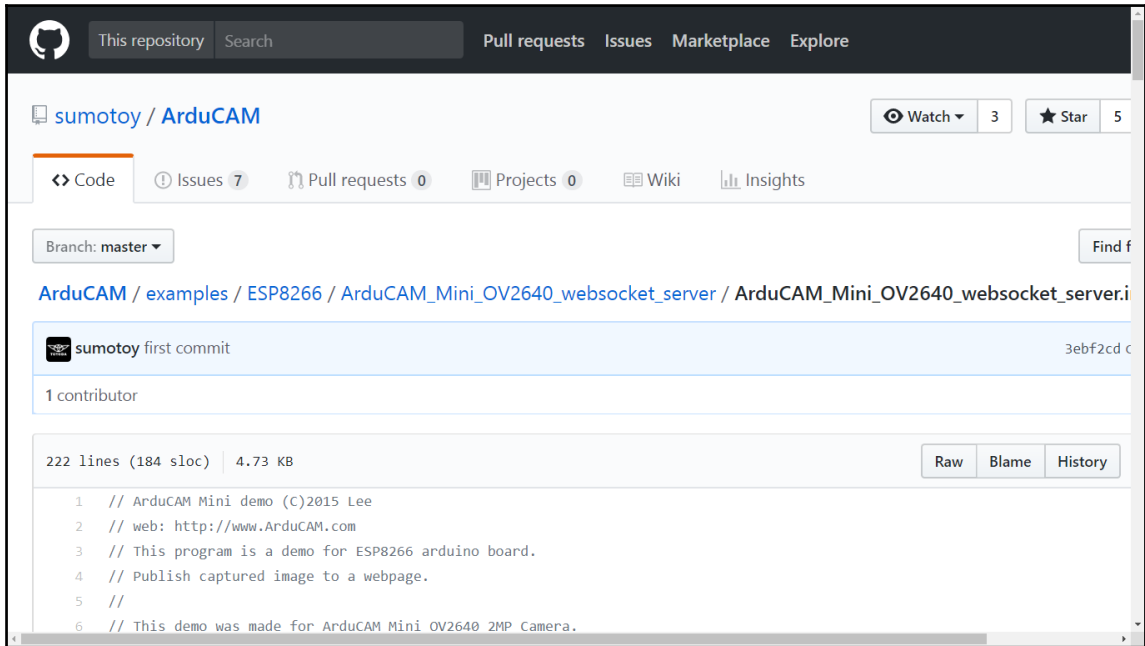

Figure 8.14: ArduCAM_Mini_OV2640_websocket_server.ino example Arduino sketch
5. Then, download the following example Arduino sketch from https://github.com/sumotoy/ArduCAM/blob/master/examples/ESP8266/ArduCAM_Mini_OV2640_websocket_server/ArduCAM_Mini_OV2640_websocket_server.ino (Figure 8.14):